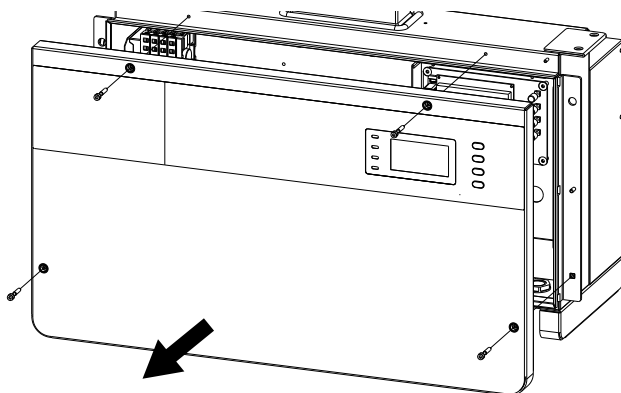

Figure 3-23 Take off the cover of the wiring box
1. Remove the cover of the wiring box. (see Figure 3-23)
- 1) Use the 3mm (0.12in.) Hex screwdriver to screw off the 4 screws on the wiring box and take off the cover. (see Figure 3-23)